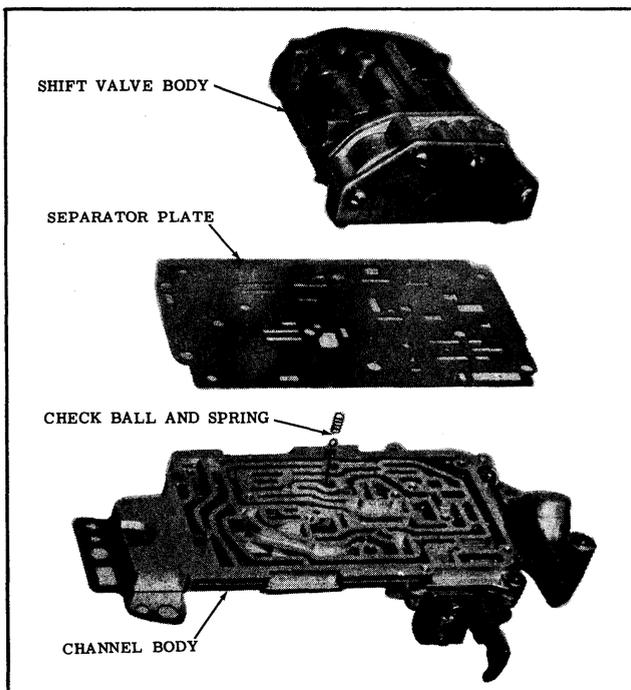

Fig. 3-126 Shift Valve Body Installation
4. Install the check ball and spring into the ball seat in the channel body. (See Fig. 3-126)